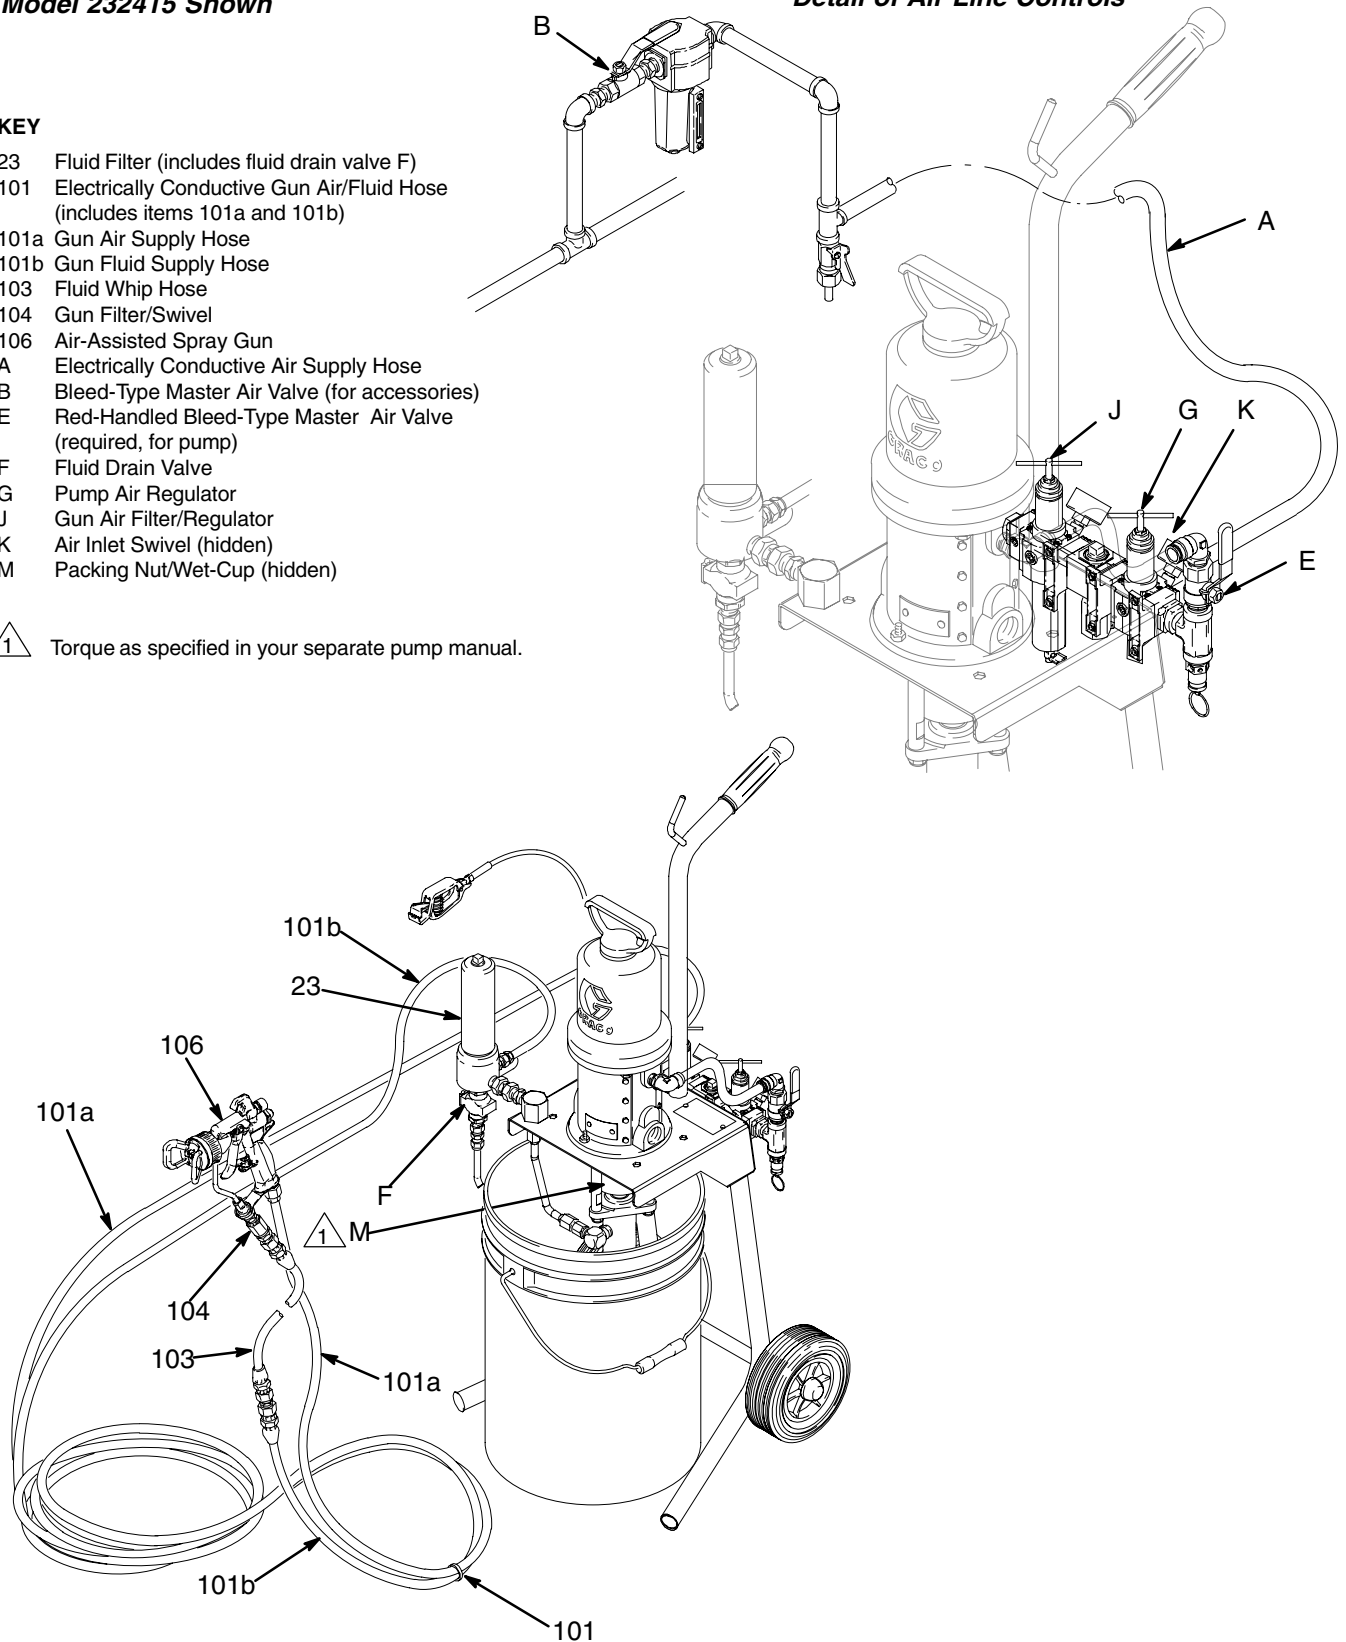

Fig. 3
2. Close the red-handled bleed-type master air valve (E, required in your system). See Fig. 3.
Before starting, fill the packing nut (M) 1/3 full with Graco Throat Seal Liquid (TSL) or compatible solvent. See Fig. 3.
1. See Fig. 3. Remove the tip guard and spray tip from the gun (106). Refer to the gun manual.
2. Close the gun air filter/regulator (J), pump air regulator (G), and bleed-type air valves (B, E).
3. Close the fluid drain valve (F).
4. Connect the air line (A) to the air inlet swivel (K).